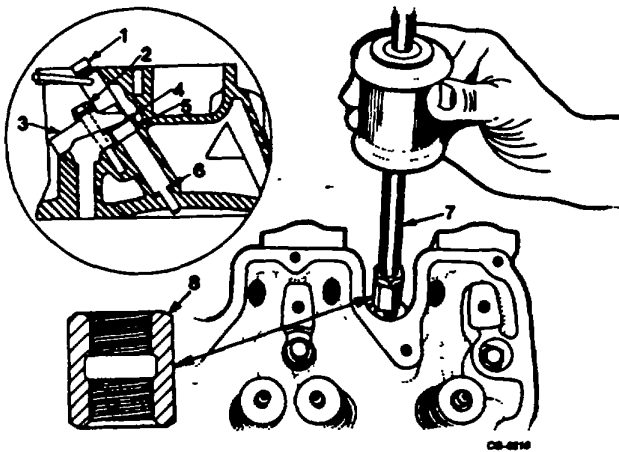

Figure 197. Removing Injection Nozzle
15. Remove injection nozzles by removing the nozzle hold-down bolt, flat washer and clamp, then with slide hammer remover tool SE-1746 equipped with adapter nut installed securely on nozzle, remove nozzle, washer, seal and gasket from cylinder head (Figure 197). Be careful not to strike nozzle tips against any hard surface during removal. Cover nozzle assembly fuel inlet and leak-off openings with plastic cap to prevent entry of dirt.